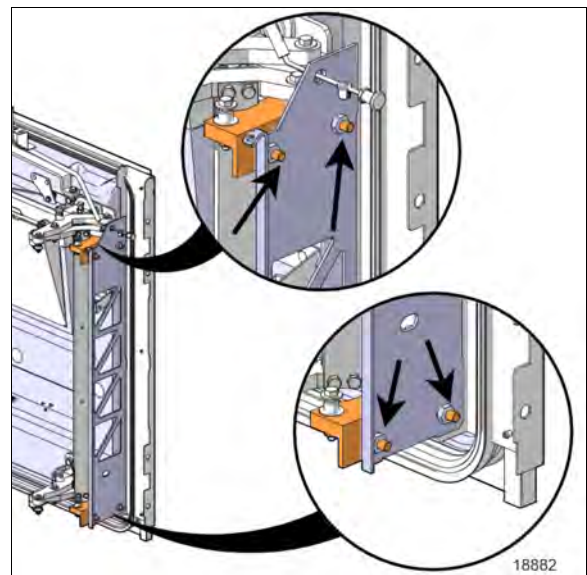

FIGURE 129: "Y" DIRECTION ADJUSTMENT SCREWS
18. For the "Y" direction, on the hinge side, loosen the screws shown in Figure 129 to allow adjustment.